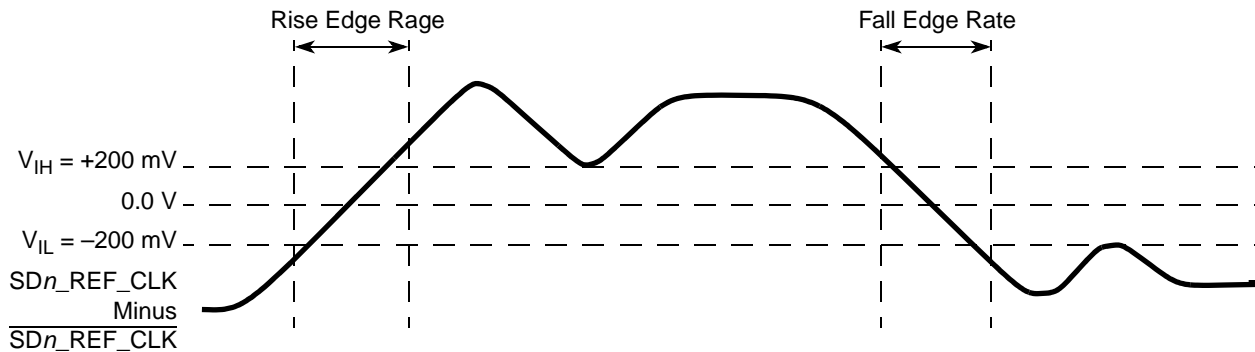

Figure 31. Differential Measurement Points for Rise and Fall Time
3. Measured from -200 to +200 mV on the differential waveform (derived from SDn_REF_CLK minus $\overline{SDn_REF_CLK}$). The signal must be monotonic through the measurement region for rise and fall time. The 400 mV measurement window is centered on the differential zero crossing. See Figure 31.